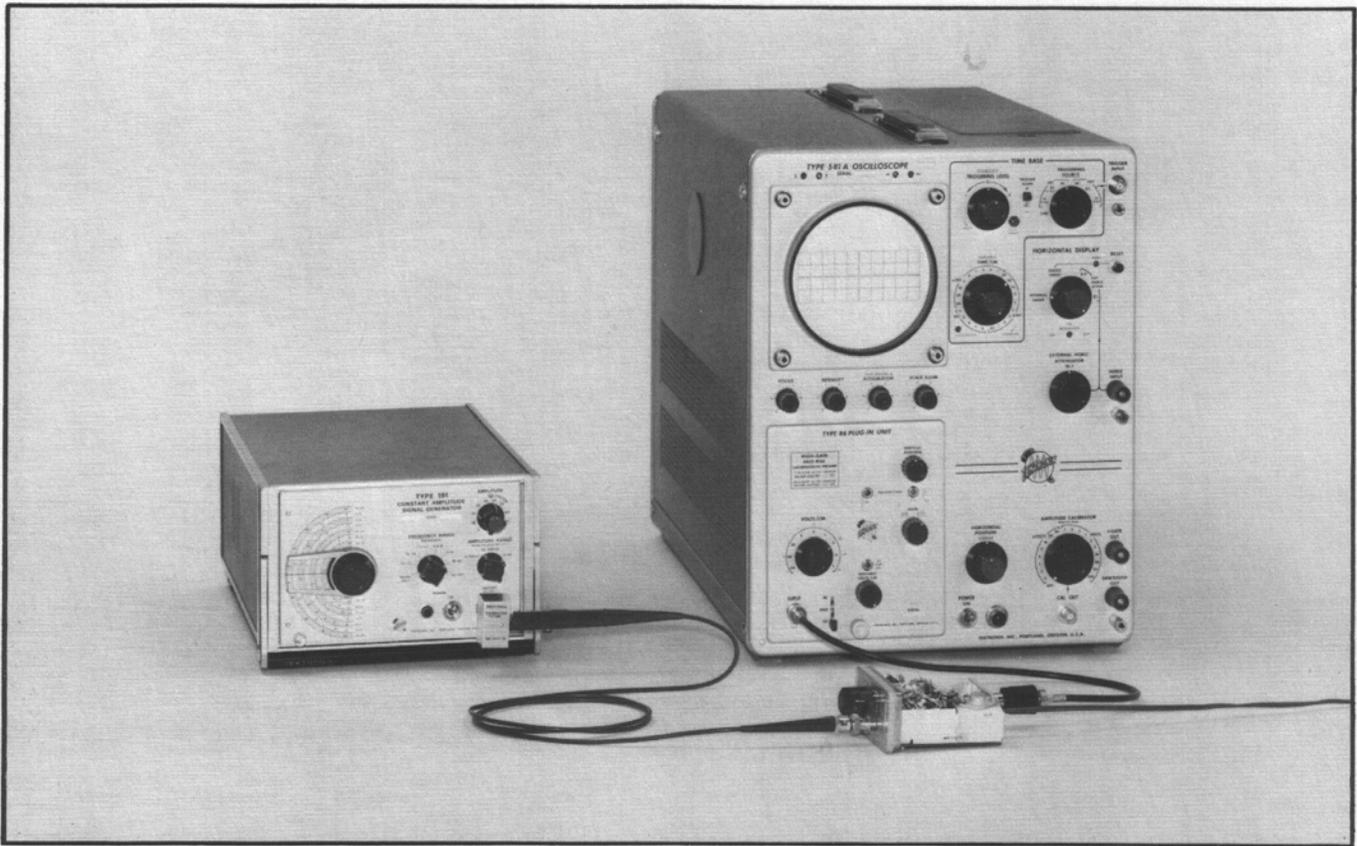

Fig. 5-6. Test setup for high-frequency response check.
b. Connect the P6021 probe from the Type 134 to the test fixture (see Fig. 5-6).
b. Connect the P6022 probe from the Type 134 to the test fixture (similar to Fig. 5-6).